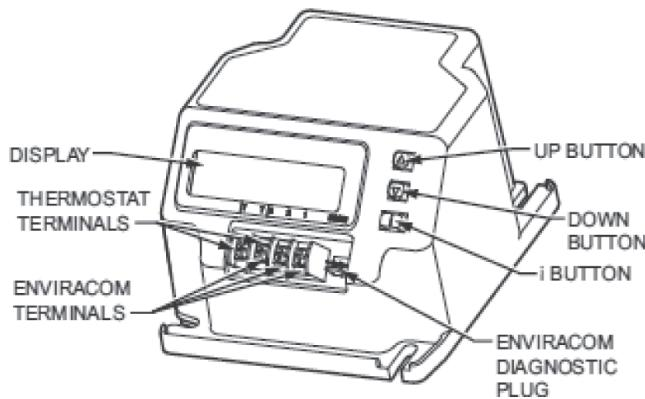

Figure 33: R7284 Oil Primary Terminals, Display and Function Buttons
- a. The Oil Primary is a microprocessor-based control. The indicator light provides diagnostic information for lockout, recycling and patented cad cell status. There is a manual reset button to exit the Lockout Mode and enter the Idle Mode (see Figure 33).
is shown on the oil primary display along with the time left on the Trial for Ignition (TFI). Pressing the up arrow button adds a minute to the TFI time for a maximum of 10 additional minutes. (press the up arrow button 10 times). Pressing the down arrow subtracts a minute from the TFI time (see Figure 33).